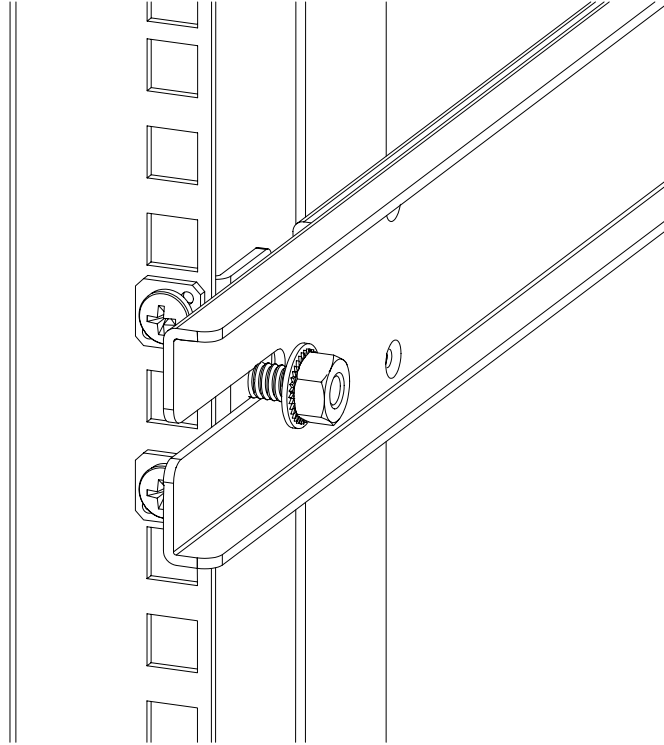

Figure 6: Installing the outer rails (HP 10000 series or comparable EIA cabinet)
- a. Attach the left outer rail and the right outer rails to the rear mounting brackets using two 1/4-20 hex nuts with captive star lock washers attached loosely as shown in Figure 6. Do not tighten them; the nuts will be tightened later in step 7 on page 37.
7. Tighten the nuts installed in substep a of step 4 on page 30. See Figure 6 on page 31.